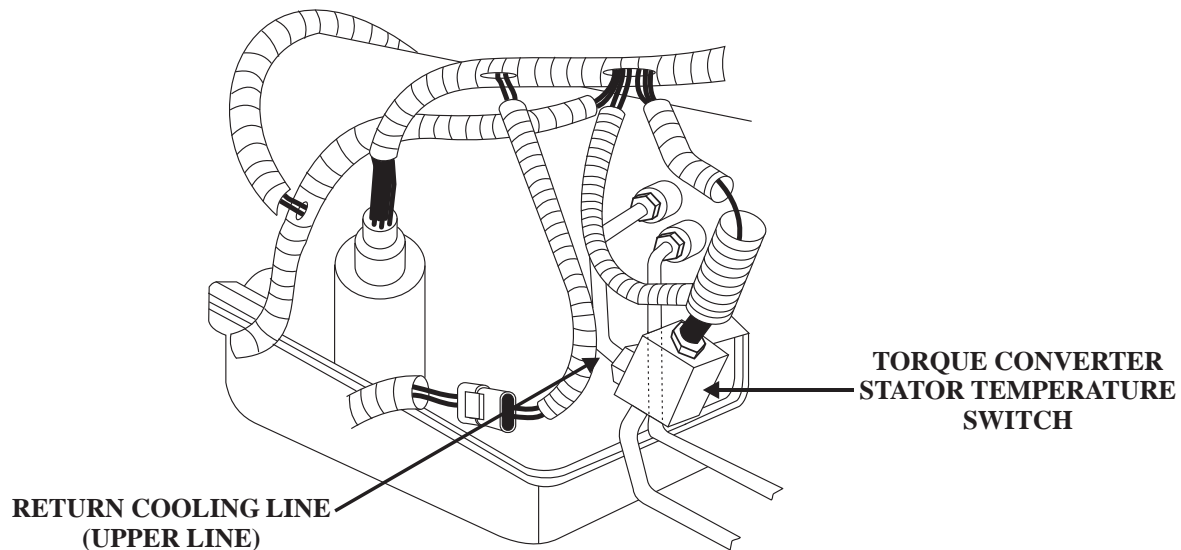

Figure 95
- The TC Stator Temperature Switch is located in the return cooler line as shown in Figure 95. This switch is a single wire, normally open switch which grounds through the cooler line. The switch closes at a temperature of 327°F (164°C), at which time this signal is sent to the PCM. The PCM will now take steps to cool the torque converter by commanding TCC after second gear.